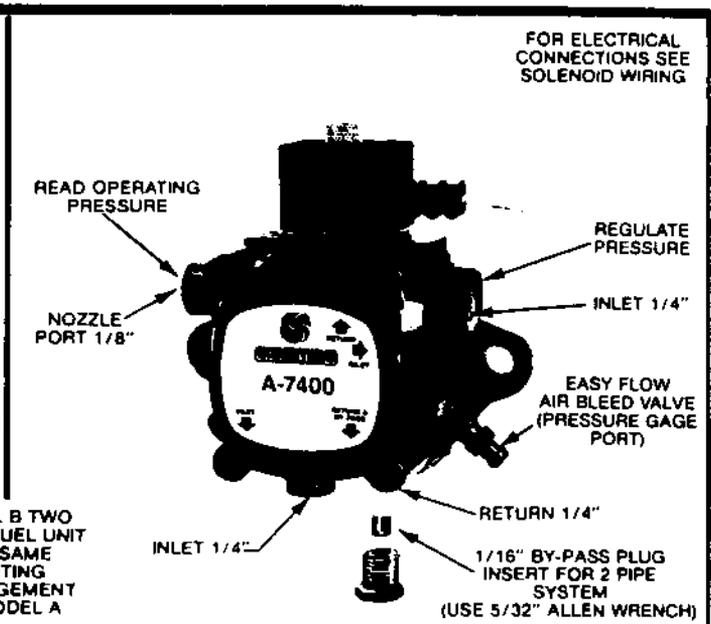

FIGURE 2
**PRESSURE CHECK** If a pressure check is made use GAGE PORT OR NOZZLE PORT. **DO NOT USE EASY FLOW BLEED VALVE PORT FOR THE 7000 SERIES.** The Easy Flow Bleed Valve Port contains pressure higher than operating pressure. Setting pump pressure with gage in the Easy Flow Bleed Valve Port results in **WRONG** operating pressure. The 7400 is an exception (See Figure 2).